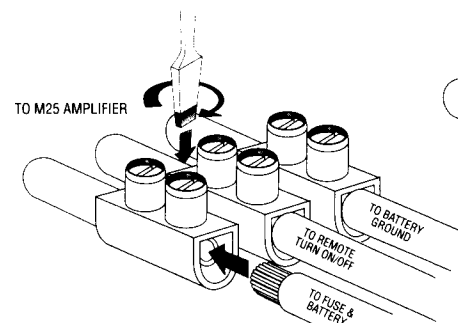
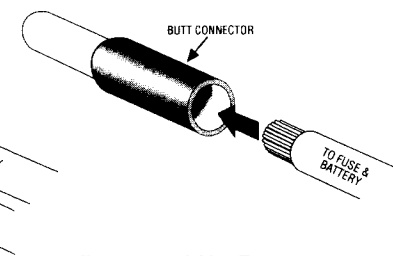

Figure 6 - M25 PDB
Figure 7 - M25 Butt connector
4. Based on the current draw of your system, always use the largest gauge power wire possible . The M25 power terminal comes with 12 inches of 9 gauge cable. Utilizing the largest gauge wire will give you the highest "damping factor" thereby the tightest and most accurate bass. Connecting these wires to the rest of your system via a M25 PDB (not included) allows amplifier to be removed easily (See Figure 6). One alternative is to use a butt connector (not included), however, this method is a permanent solution and doesn't allow quick removal of the amplifier (See Figure 7).